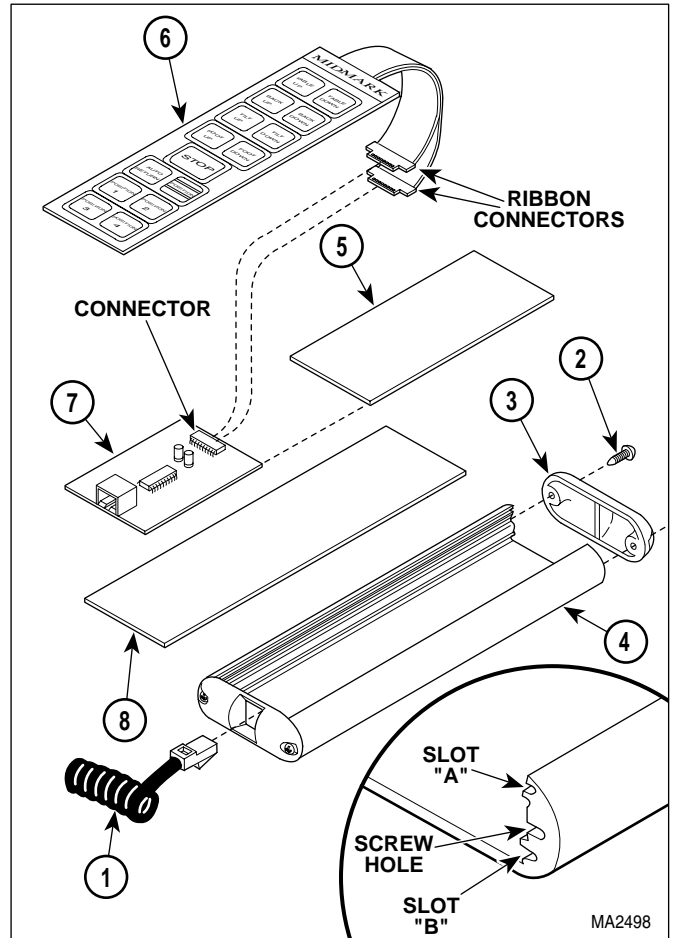

Figure 4-26. Hand Control Panel / Interface Board Removal / Installation
- (1) Disconnect coil cord (1, Figure 4-26) from hand control.
- (2) Remove two screws (2) and top end cap (3) from hand control tube (4).